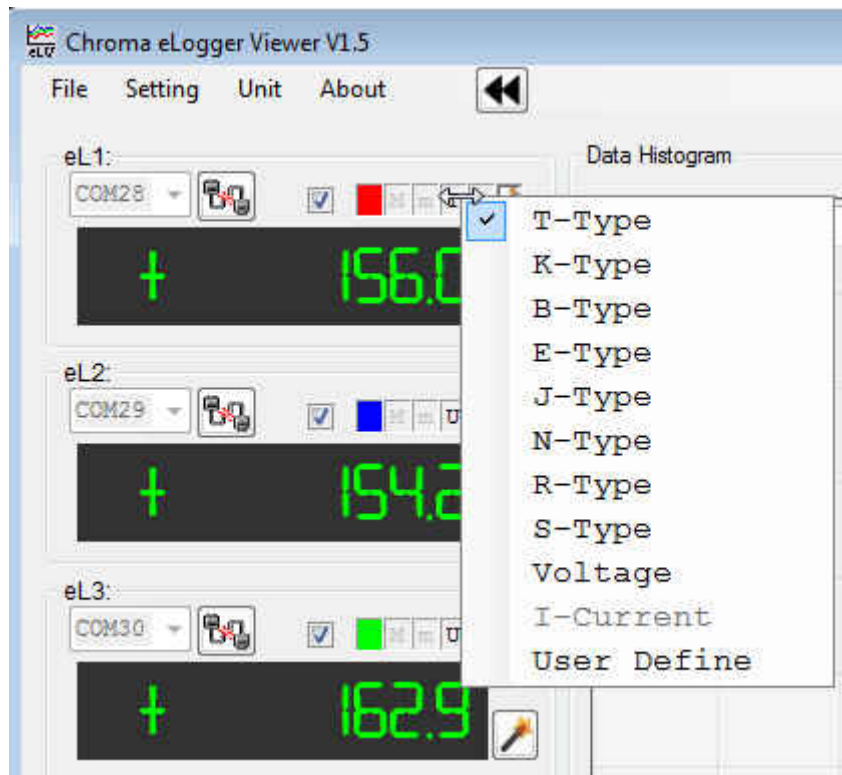

Figure 2-7 Thermal Couple Type/Voltage/Current/User Define
**Thermal Couple Type/Voltage/Current/User Define:** It is necessary to select thermocouple type to be used correctly while measuring temperature thus correct temperature can be gotten. Other measurements are also the same thus please use the mouse right click this item, a selection list will be shown as Figure 2-7. Select correct thermocouple type or voltage, current or user defined physical, selected result will be shown on the selection box by its English letter.